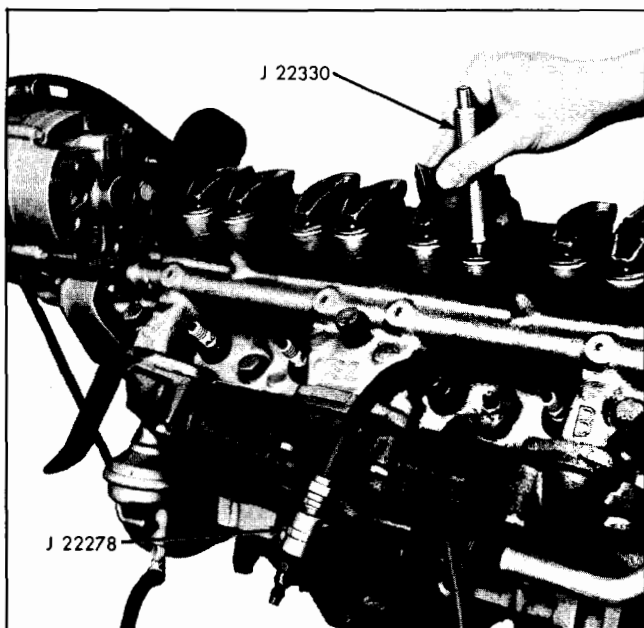
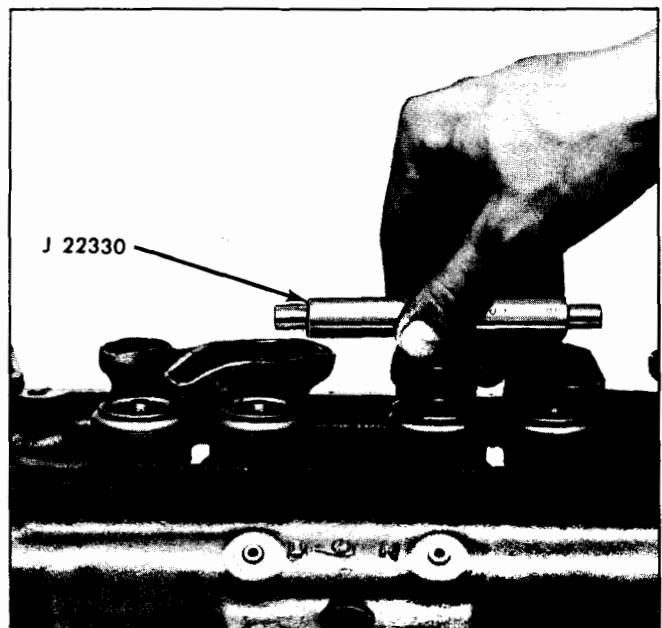

Fig. 6-103 Installing Valve Stem Seal
Fig. 6-104 Checking Valve Stem Seal
1. Install new part or parts, compress springs with valve spring compressor J 6384-1 and nut J 8929-2. Install valve stem seal (Fig. 6-103) and retainer cup locks. Remove spring compressor and valve holder, then test valve stem seal using suction cup end of tool J 22330 (Fig. 6-104).